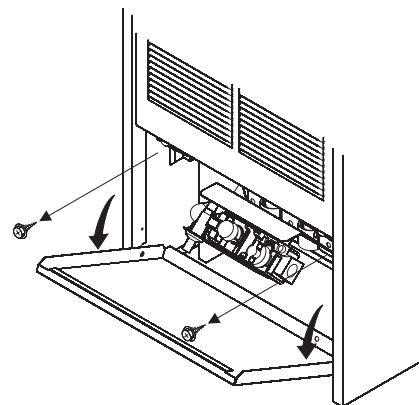

Figure 5
4. At the top of outer casing remove one (1) screw from center clearance slot that attaches outer casing to header assembly. Also, remove two (2) screws that attach bottom of outer casing to inner casing. See Figures 5 and 6.